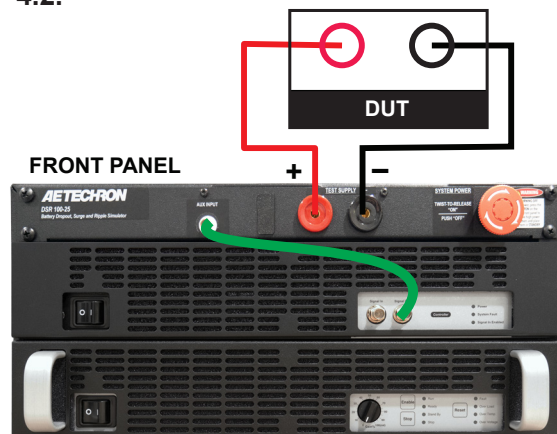

Figure 4.2 – Connections for Low-Voltage Testing
Using a standard BNC cable, connect from the Signal Out BNC connector located on the front panel of the 3110A to the Aux Input BNC connector located on the DSR 100-25's I/O panel. See **Figure 4.2**.
4. **Connect the Outputs:** Using the supplied mating output connectors and wiring appropriate for your application, connect from the DSR 100-25's positive and negative test supply connectors to the device under test. See **Figure 4.2**.